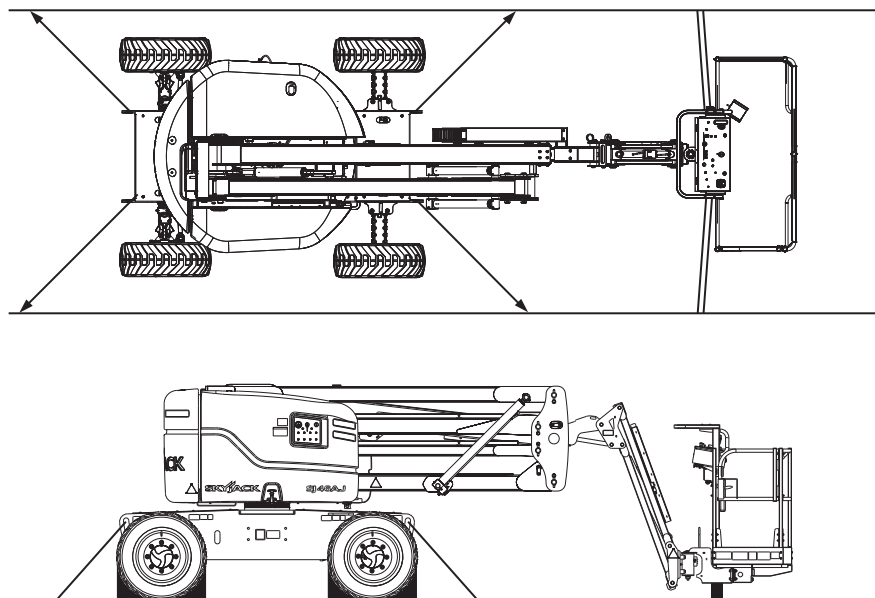

Figure 2-9. Tie-down Points
6. Anchor down aerial platform to transport surface using tie-down points (refer to Figure 2-9).